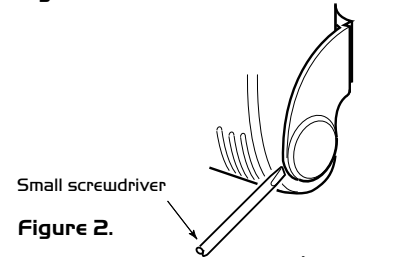

Figure 2.
- Carefully separate the sensor from the backplate using a small screwdriver (see Fig 2) Note: the sensor will remain connected by its internal cable.